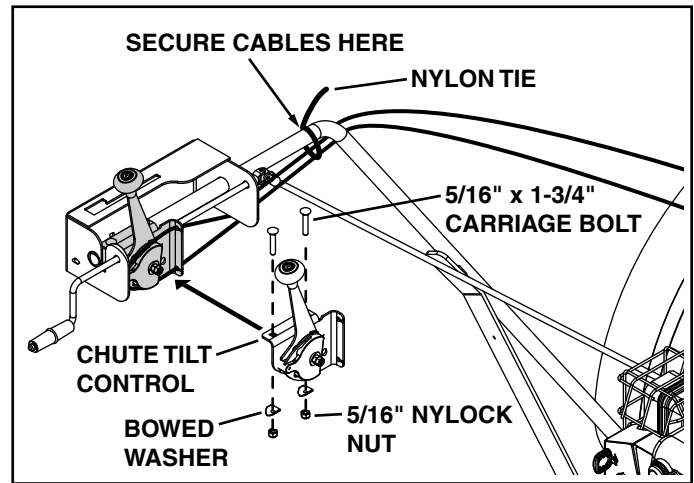

FIGURE 25
36. Attach the chute tilt control to the control assembly using (2) 5/16" x 1-3/4" carriage bolts, (2) bowed washers and (2) 5/16" nylock nuts.
37. Using a nylon tie, secure the cables from the chute tilt control to the support tube as shown in figure 25.